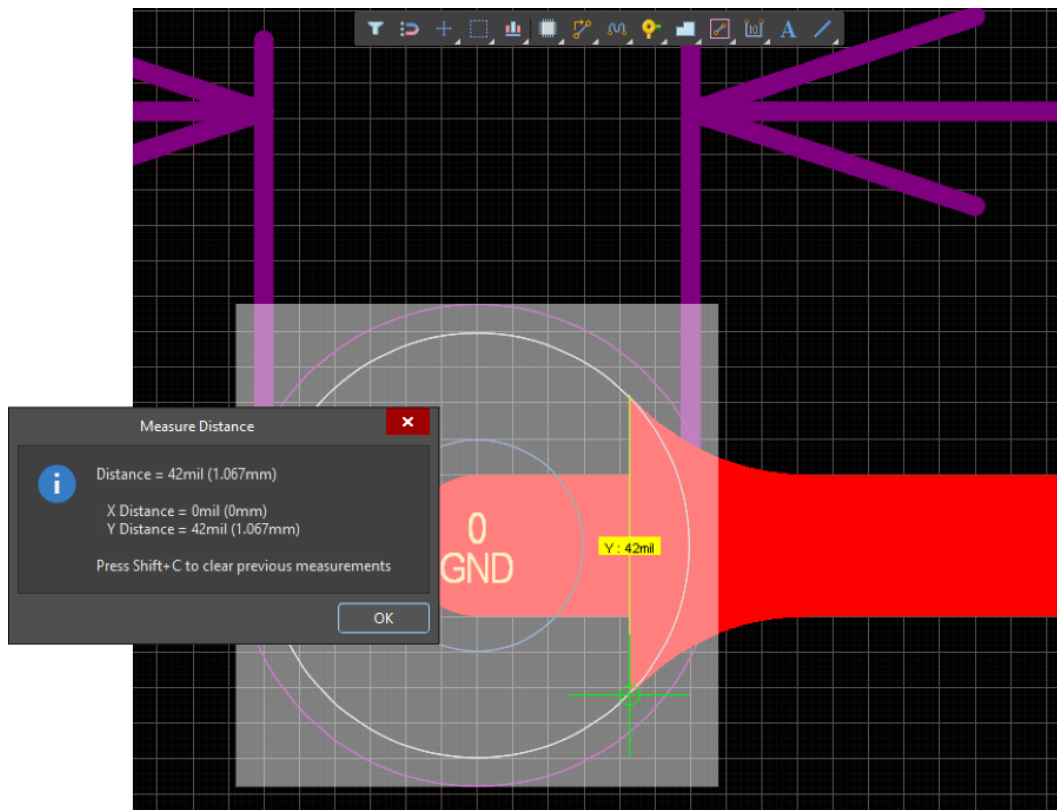

Figure 7. Measuring Teardrop Height
18. The mouse cursor will now turn into a crosshair. Begin selecting the top tip of the arc as your first point and then the bottom tip of the arc as your second click. See the Figure 7 below. Pressing **Ctrl** during Measure Distance allows you to temporarily deactivate the Snap to Grid, to position the cursor at the top tip and bottom tip of the arc.